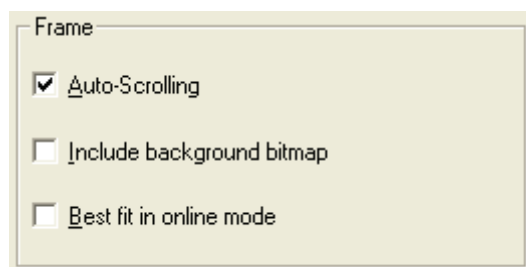

Figure 11-3-5 Frame Setting
- Frame: Frame setting, shown in figure 11-3-5.